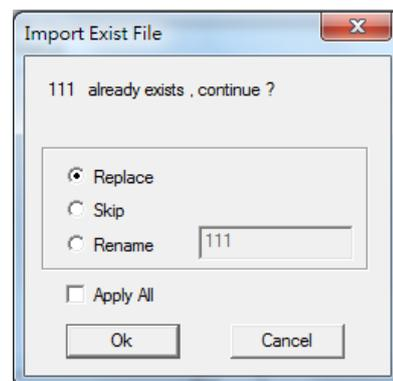

Fig. 3.1.02
2. Select the items and click **"..."** to select the folder user want to export or import, then click **"Import"** or **"Export"** button. If the name of lens has already existed, the system will pop a warning dialog box, see Fig.3.1.02. Please notice that **"*.Jen (Lens cor. File)"** is only used for version 2.4, so it can only be import.